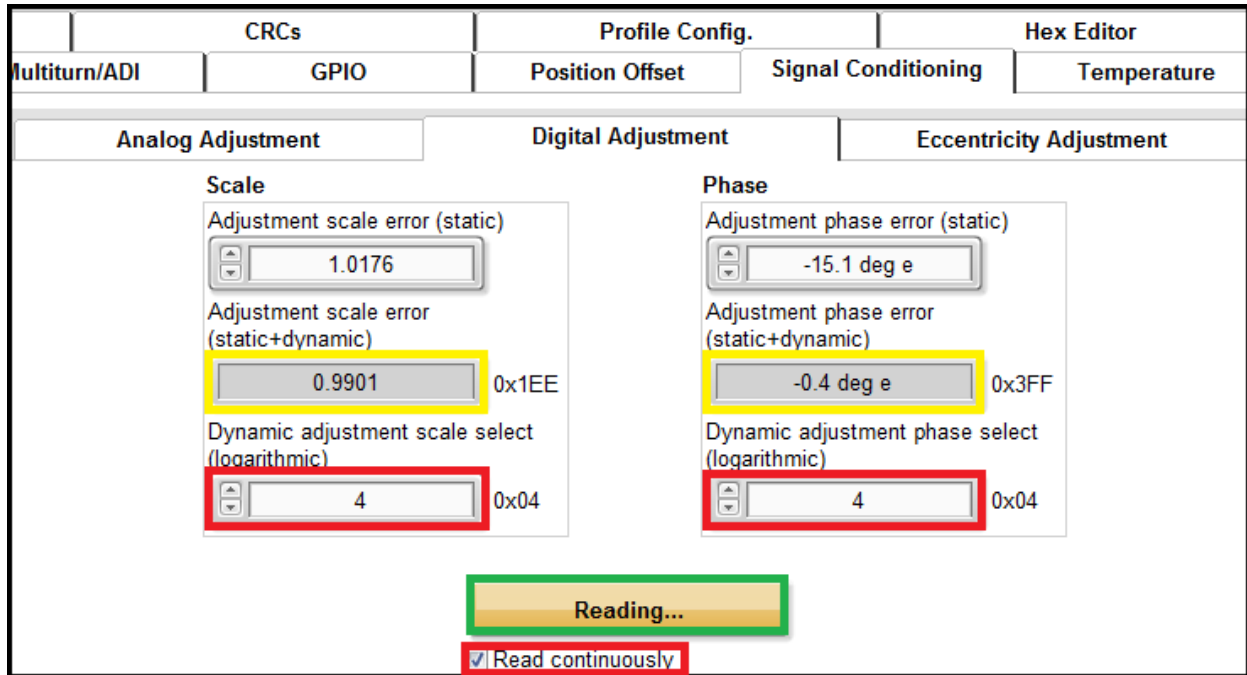

Figure 7: Mechanical adjustment
- Continuously read AI_PHASES and AI_SCALES. The registers show the currently effective adjustment values and are marked with a yellow frame in Figure 7.